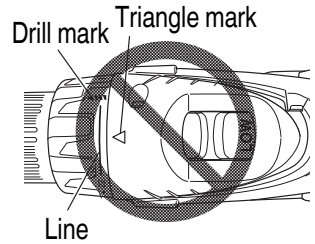

Fig. 6
- Do not use with the clutch dial numeral between “22” and the line at the middle of the drill mark. Doing so may cause damage (See Fig. 6).